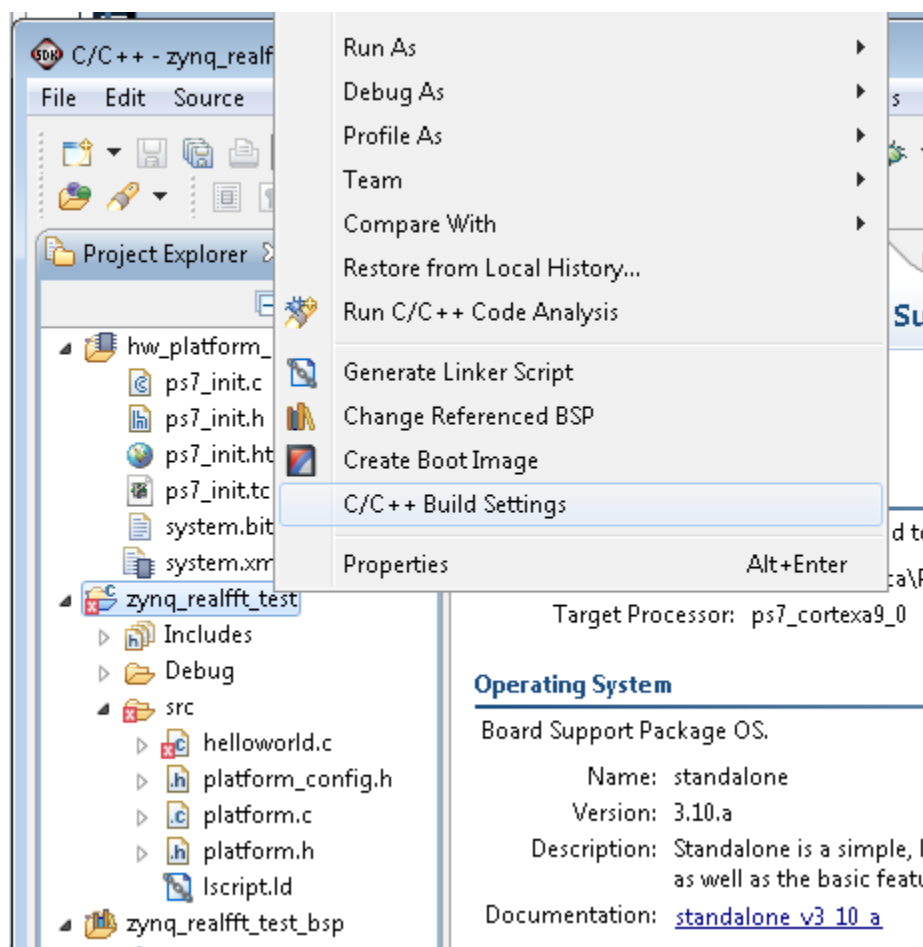

Figure 263: Specify C/C++ Build Settings
30. To view the completed design, run Validate Design by clicking the icon in the toolbar (Figure 263).